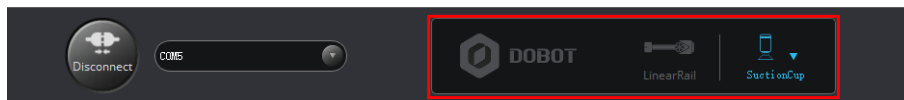

Figure 5.3 The linear rail and end-effector drop-down list
- You can select the linear rail or an end-effector on the DobotStudio page, as shown in Figure 5.3.